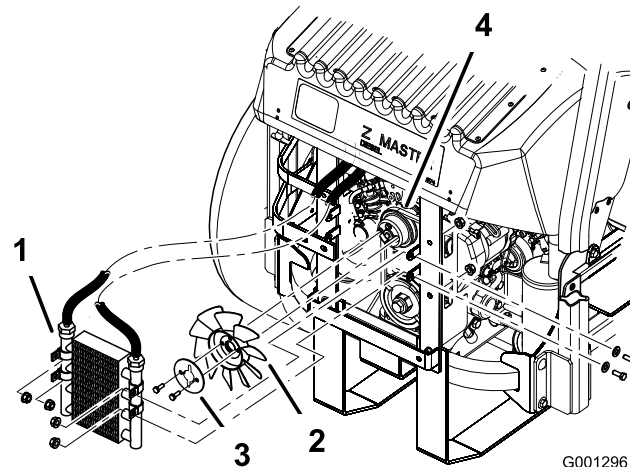

Figure 72
5. Remove the 4 bolts holding the oil cooler and position the oil cooler to the side (Figure 72).
6. Remove the 2 bolts holding the fan and fan plate to the machine (Figure 72).
10. Install the fan and fan plate to the machine with the 2 bolts previously removed (Figure 72).
11. Install the oil cooler with the 4 bolts previously removed (Figure 72).